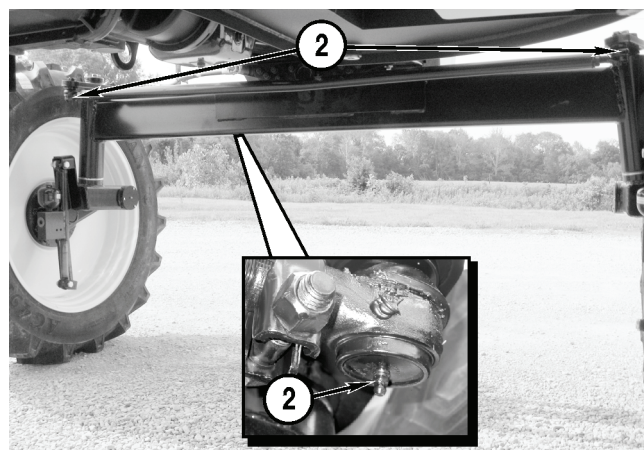

Figure 5-22
1. Apply lithium grease through the ball joint grease fittings on each end of the tie rod (Figure 5-22, 1) and on the steering cylinder (Figure 5-22, 2).